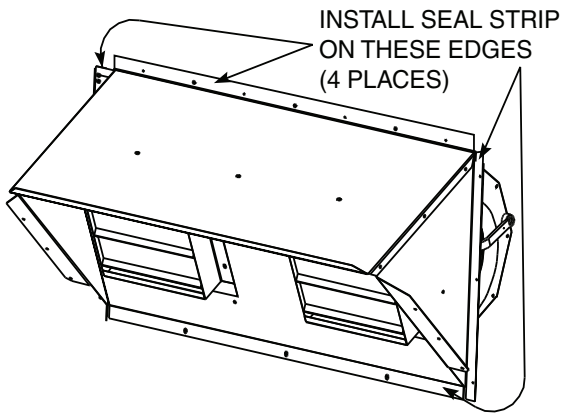

Fig. 14 — Hood Assembly
2. Position the barometric relief assembly at return air section of unit. Add seal strip to the edges of the hood assembly. See Fig. 14. The long piece of seal strip is for the top and bottom. The short piece is for the two sides.